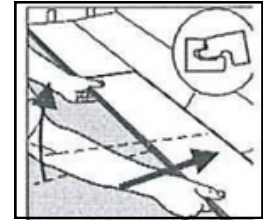

Figure 3
2. Position the first board in place by angling it up slightly, pushing forward and interlocking the side tongue. **(Figure 3)** Slide the board to the left as necessary to align the edges of the end joint.
6. Install the remaining boards and rows in the same manner. **(Figures 3 & 4)**